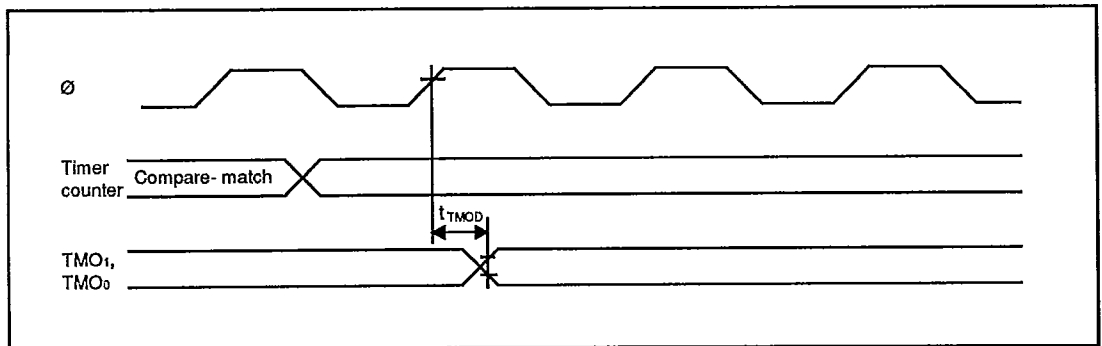

Figure 15-13. 8-Bit Timer Output Timing
- 15.3.4 8-Bit Timer Timing Figures 15-13 to 15-15